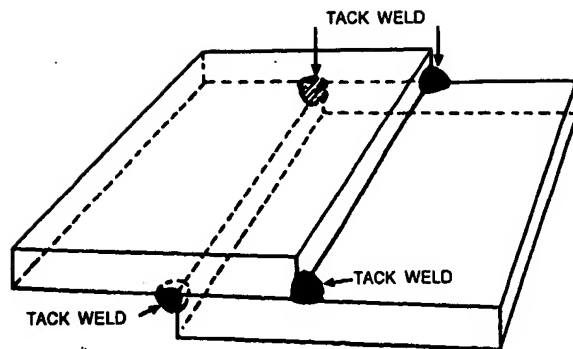

Figure 7-30.—Tack welding a lap joint.
**LAP JOINTS.**— When you make a lap joint, two overlapping plates are tack-welded in place (fig. 7-30), and a fillet weld is deposited along the joint.